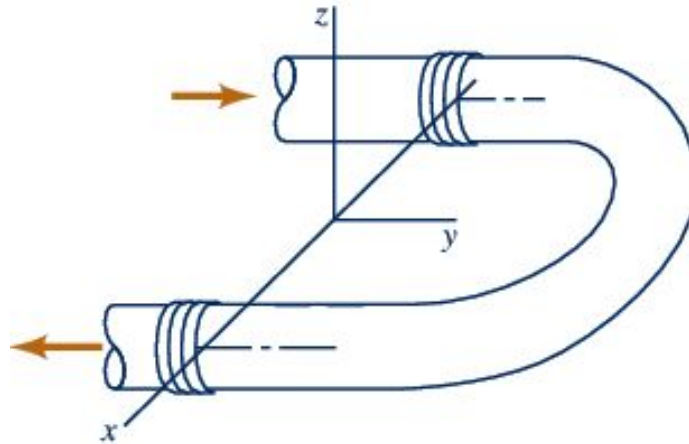

Figure 4: See problem 2.
**Problem:** Water flows through a horizontal,  $180^\circ$  pipe bend as is illustrated in Figure 4. The flow cross-sectional area is constant at a value of  $9000 \text{ mm}^2$ . The flow velocity everywhere in the bend is  $15 \text{ m/s}$ . The absolute pressures at the entrance and the exit of the bend are  $p_{in} = 210 \text{ kPa}$  and  $p_{out} = 165 \text{ kPa}$ , respectively. Calculate the horizontal ( $x$  and  $y$ ) components of the anchoring force needed to hold the bended pipe in place. To obtain the force on the pipe you need to choose your control volume wisely.